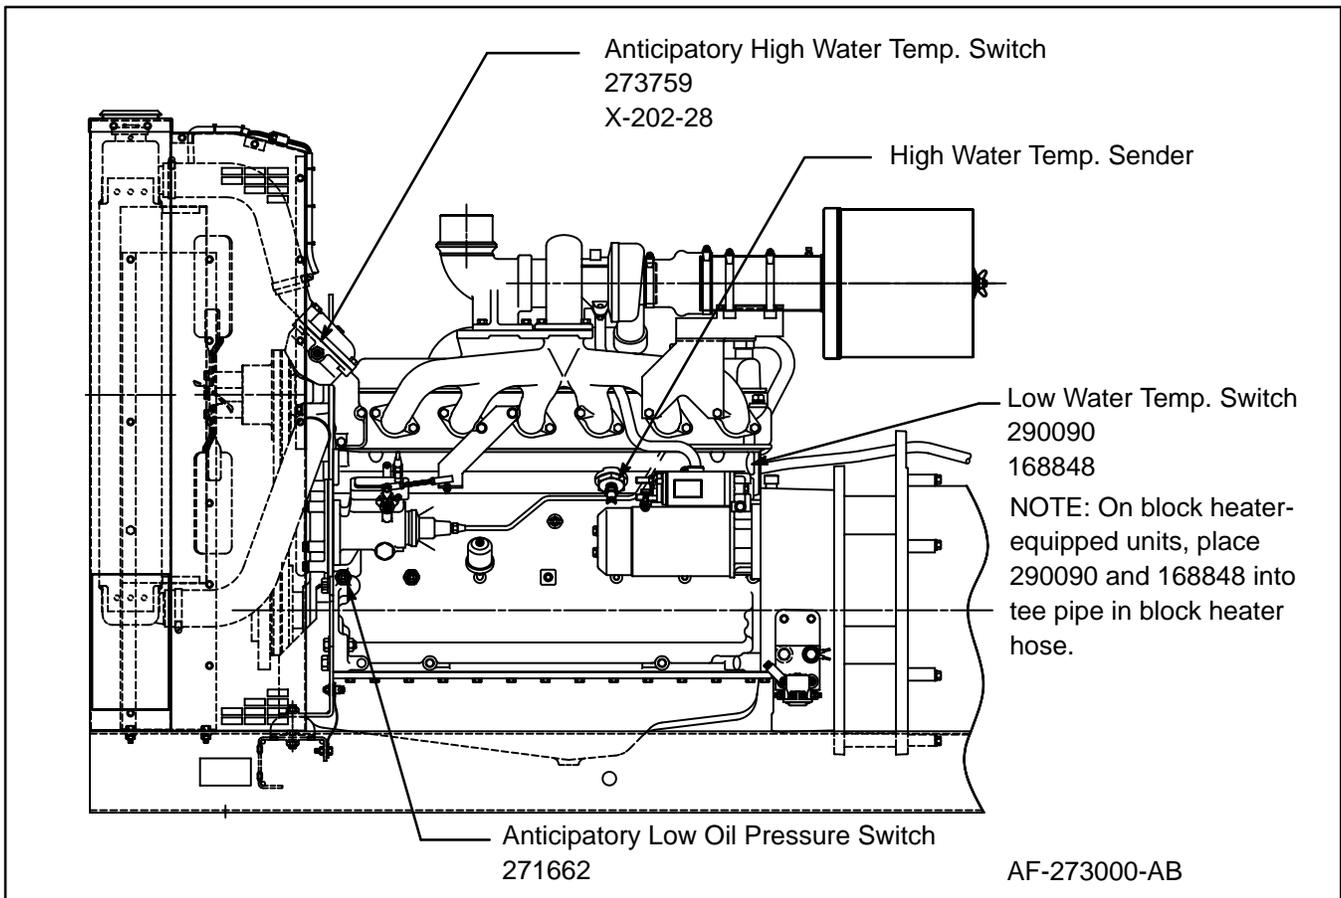

Figure 1. Plug Removal and Switch Installation Locations.
3. Remove the pipe plugs for the Low Water Temp. Switch, the Anticipatory High Water Temp. Switch and the Anticipatory Low Oil Pressure Switch. See Figure 1 for locations. Some older units have the High Water Temp. Sender installed (standard) in the position indicated for Low Water Temp. Switch 290090 in Figure 1. It must be moved to the High Water Temp. Sender position (top left side of engine, in front of starter) indicated in Figure 1. If the High Water Temp. Sender must be moved, go to step 4. If the High Water Temp. Sender is already located where indicated in Figure 1, go to step 5.
6. Coat the threads of the switches with a high temperature pipe joint compound and install them in the locations shown in Figure 1.